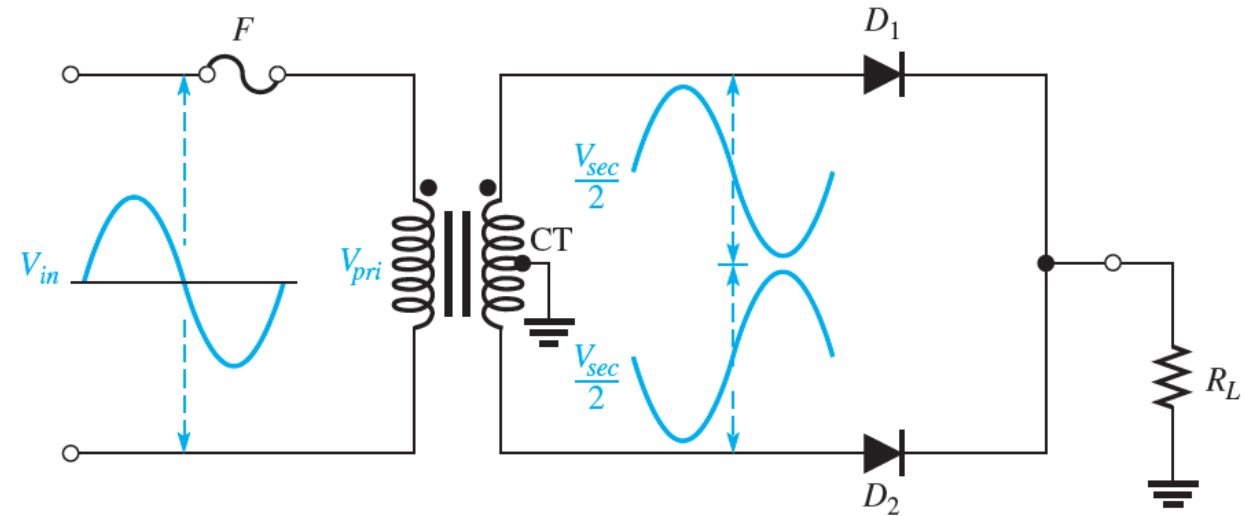

Fig. 13: Center-Tapped Full-Wave Rectifier
- The center-tapped (CT) full-wave rectifier uses two diodes connected to the secondary of a center-tapped transformer.
- Half of the secondary voltage appears between the center tap and each end of the secondary winding, as shown in Fig. 13.